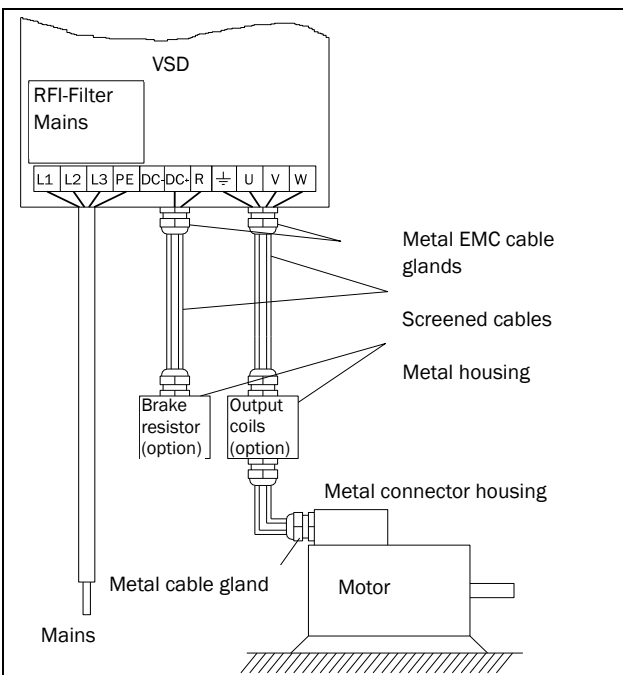

Fig. 34 Connection of mains and motor cables
1. Connect the mains cables as in Fig. 34. The VSD has, as standard, a built-in RFI mains filter that complies with category C3 which suits the Second Environment standard.
2. Connect the motor cables as in Fig. 34. To comply with the EMC Directive you have to use screened cables and the motor cable screen has to be connected on both sides: to the housing of the motor and the housing of the VSD.